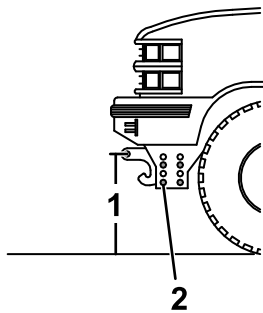

Figure 27
1. Measure the distance from the ground to the coupler spring-pin holes on the undercarriage pushbeam (Figure 27). The measurement should match the height listed for your plow in Specifications \(page 22\).
2. If the pushbeam is not at the correct height, remove the fasteners securing the pushbeam to the undercarriage (Figure 27).